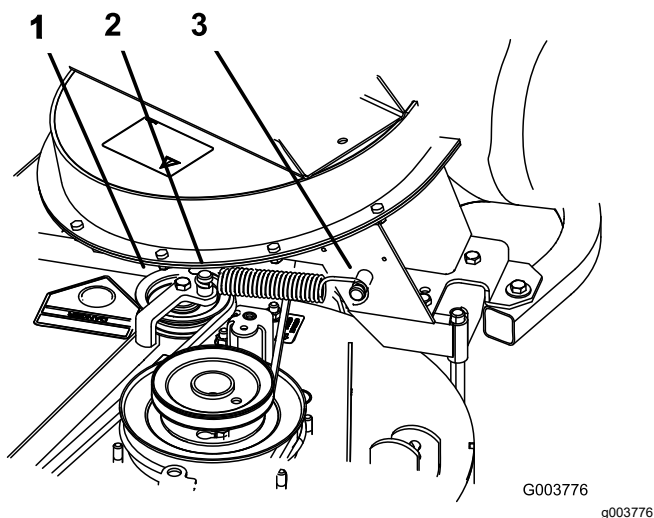

Figure 45
8. Install the spring as shown in Figure 45.